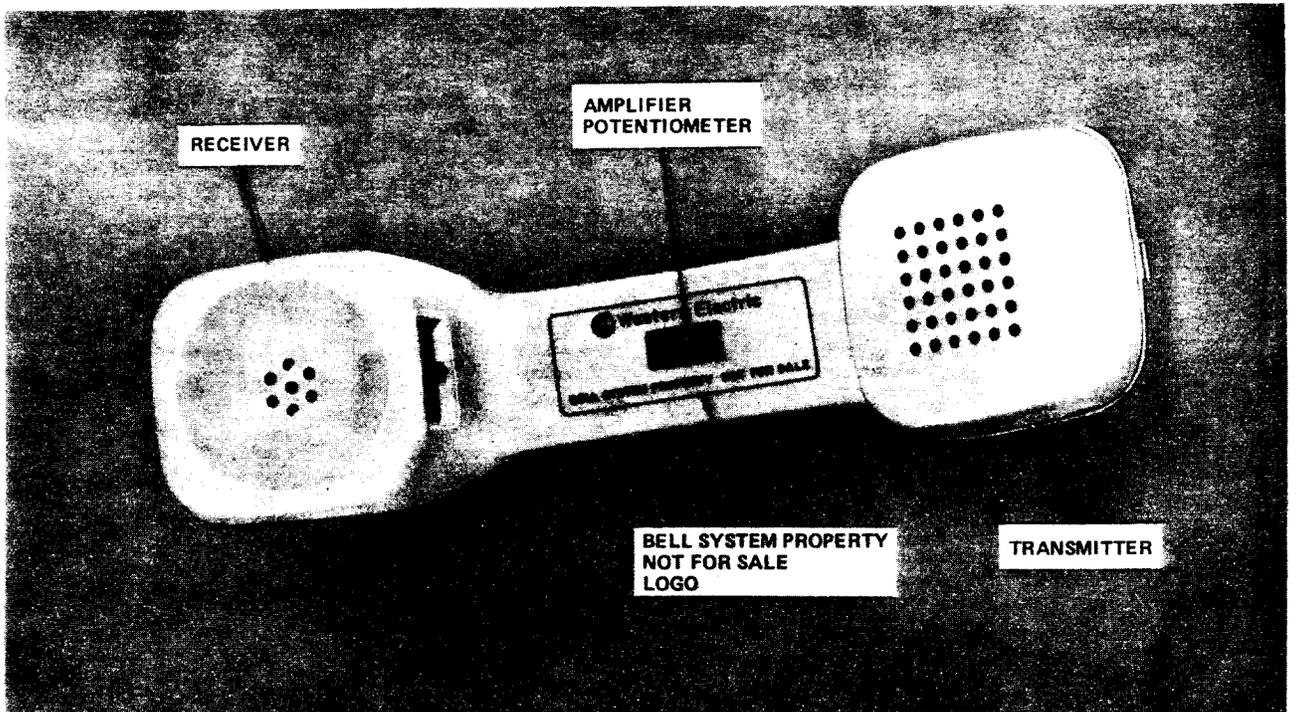

Fig. 8—K6C Impaired Hearing Handset
- Has BELL SYSTEM PROPERTY NOT FOR SALE logo (Fig. 8)